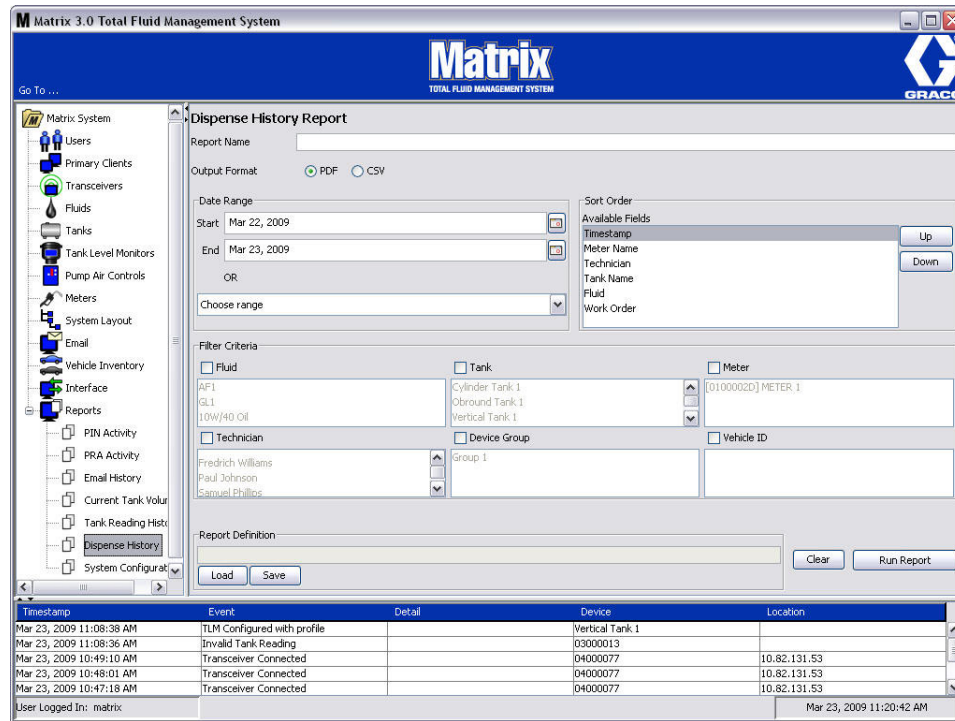

FIG. 175
- **Dispense History (FIG. 175)**